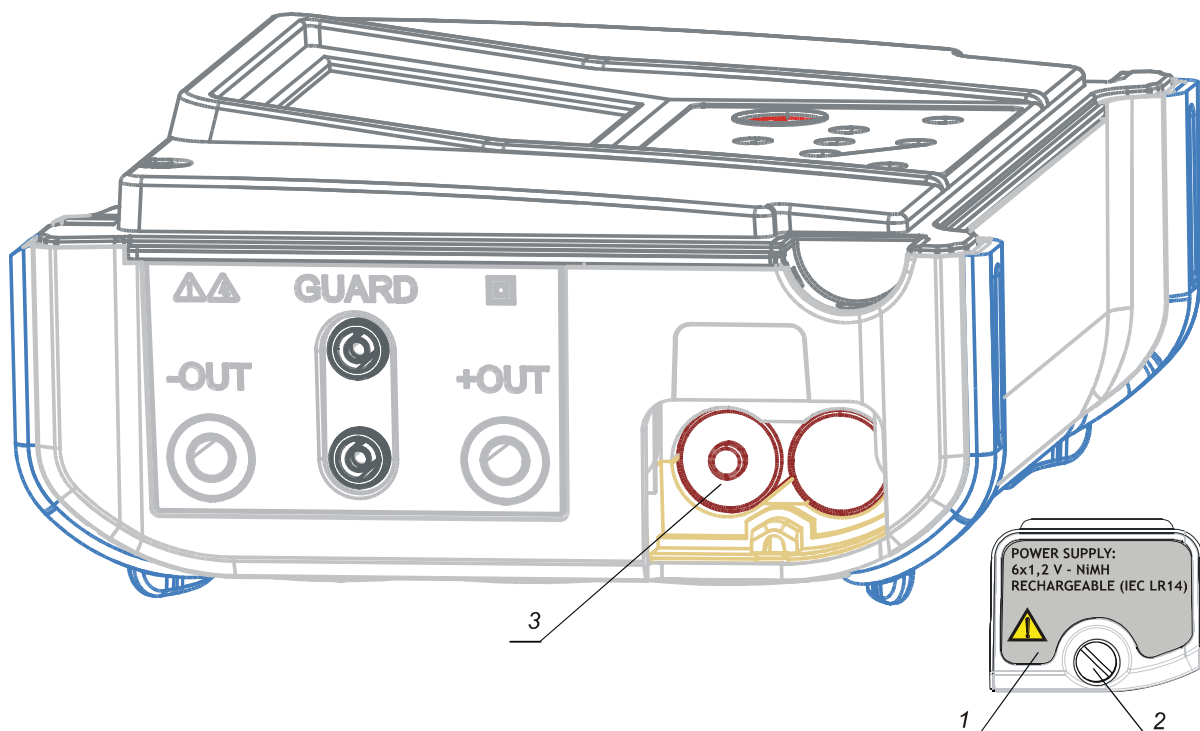

Fig. 15. Correct inserted batteries
Battery cells are stored in the bottom section of the instrument casing under the battery cover (see **Fig. 15**). When inserting batteries for the first time please note the following:
- ◆ **Insert batteries correctly (see Fig. 15), otherwise the test instrument will not operate!**
Battery cells are stored in the bottom section of the instrument casing under the battery cover (see **Fig. 15**). In case of defective batteries please note the following:
- ◆ Insert the batteries correctly (see Fig. 15), otherwise the test instrument will not operate and the batteries may be discharged!
Nominal power supply voltage is 7.2 V DC. Use six NiMH cells with C size (dimensions: diameter = 26 mm, height = 46 mm). See the next figure **Fig.15** for correct polarity of batteries.